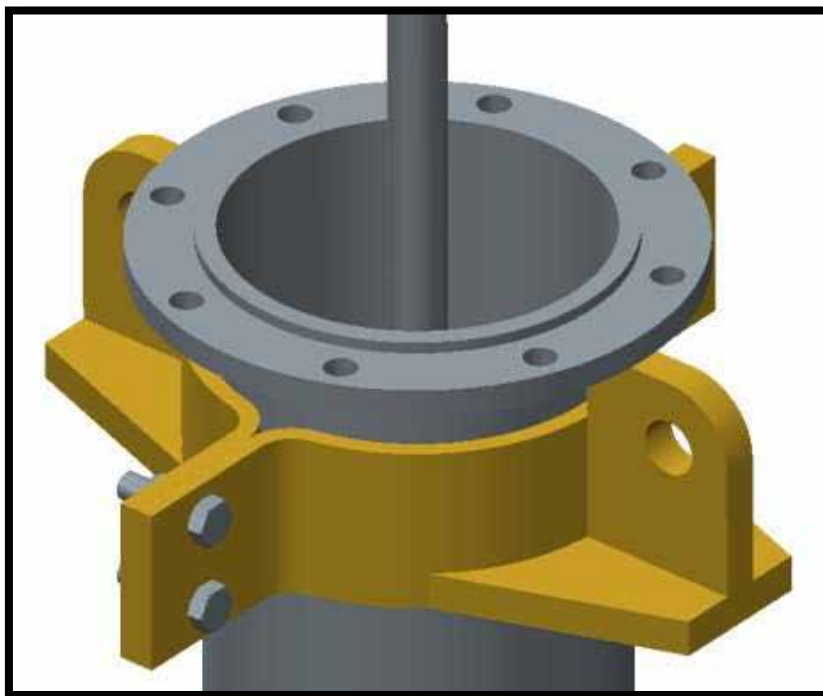

Figure 4
Figure 3: Be sure to install the Lifting Clamps (3) centered between the column holes. This will allow for proper fastener installation in later steps. See Figures 4 and 5 below for clarification.